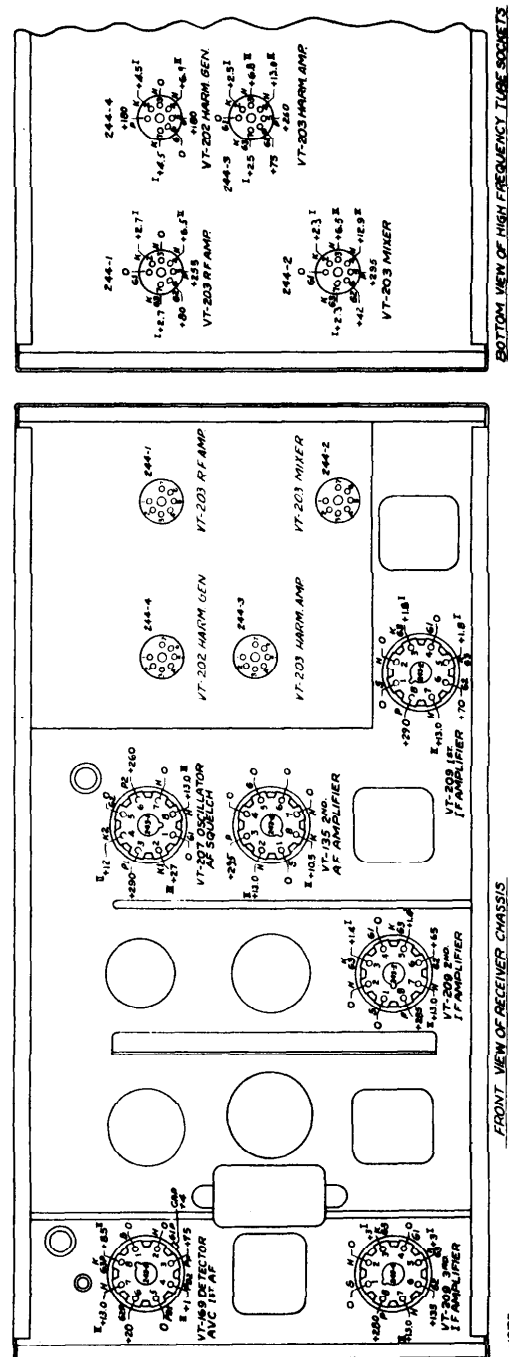

FIGURE 62 — RECEIVER TUBE SOCKET LAYOUT AND VOLTAGES
Figure 62 is the vacuum tube layout and socket-voltage diagram for Radio Receiver BC-624-A. All readings are taken with the Weston Model 665 Type 2 Selective Analyzer which is part of Test Set I-56-A. The sensitivity of this meter is 1000 ohms per volt. The 500v scale is used unless otherwise specified. All voltages are measured to chassis ground unless otherwise stated. Additional conditions of measurement are given in the voltage diagram.
Press any one of the channel-selector pushbuttons on Radio Control Box BC-602-A and make certain that the proper channel is selected. The input to Dynamotor Unit PE-94-A should be 28.5 volts. If it so happens that a meter is employed with different scales from those shown in Figure 62, use the scales most nearly approximating those shown. The shells of Tubes VT-169, VT-209 and VT-207 are at ground potential (zero volts).
*Note that this tube is a duplex diode-pentode. For diode voltages, refer to Figure 62.